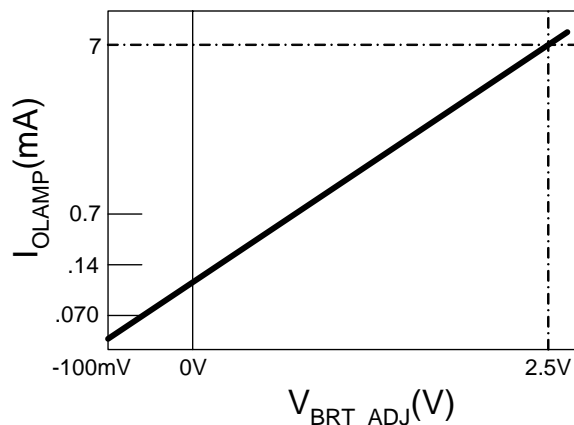

Figure 9 – Average Lamp Current vs.  $V_{BRITE}$  Voltage (per Lamp)
1. By varying the input voltage on the brightness pin as indicated in Figure 9. Caution must be exercised when applying negative voltage to the brightness control input. Applying more than -300mV to any inverter input will cause inverter malfunction (see Absolute Maximum Ratings).